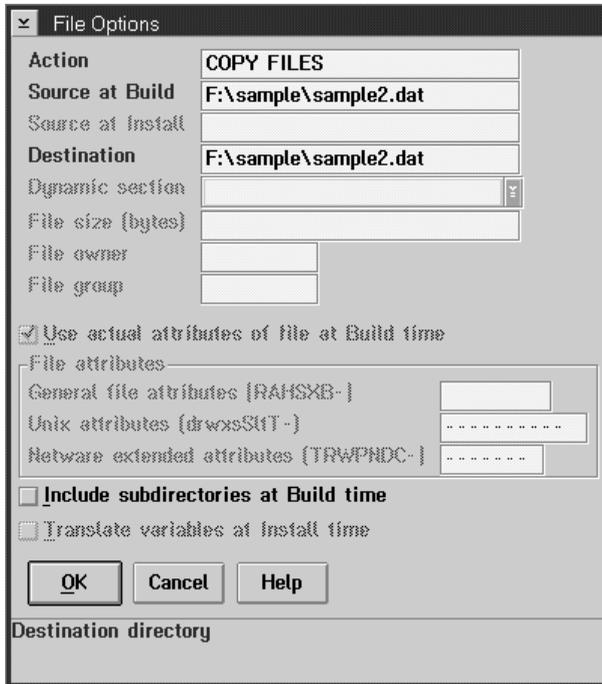

Figure 62. File options window
- 13** You may need to change the destination of the files that will be installed from **F** to **C**. To make this change, select the **sample1.dat** file in the Files in software object container and choose the **Options** push button. The File Options window is displayed, as shown in Figure 62 on page 158.